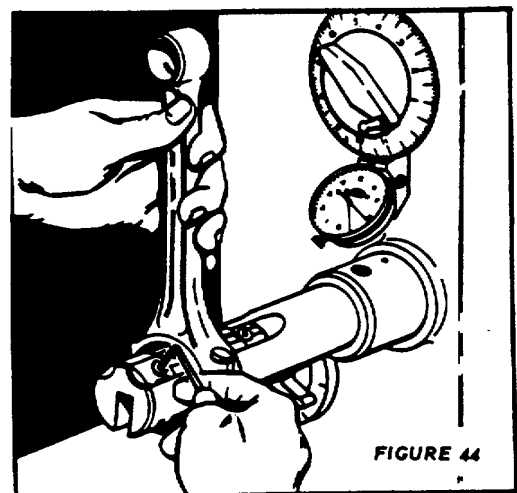

FIGURE 44
- (1) Select proper size CR honing unit and insert it in spindle chuck.
- (2) Install correct extension points in AG-300 gage.
- (3) Set the cutting pressure between 2-1/2 and 3-1/2.
- (4) Push STOP button. Rotate machine spindle by hand until mandrel shoes are on top. Loosen the four shoe clamp screws about 1/2 revolution with wrench provided. Place con rod vertically on mandrel at center of shoes (Figure 44). Fully depress Pedal and keep it fully depressed until screws are tightened. Expand stone by turning Feed Dial clockwise until con rod is held firmly on honing unit.